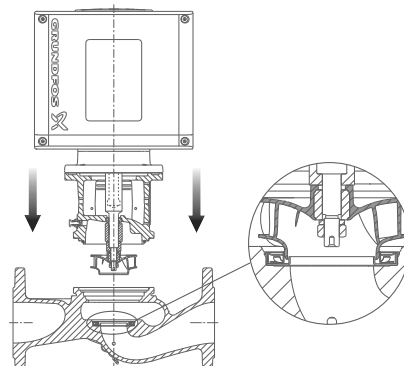

Fig. 11 Lowering of pump head
2. Gently lower the pump head with rotor shaft and impeller into the pump housing. See fig. 11.